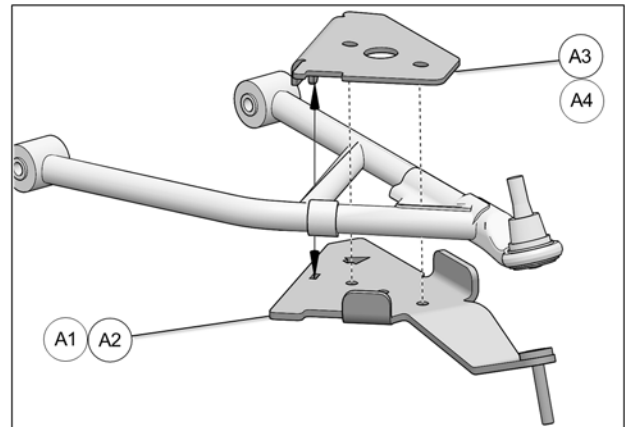

Fig. 17
6. Place bottom part of anchor bracket (A1-A2) assembly under front lower suspension arm. Position bracket cover (A3-A4) over suspension arm and align holes in cover and bottom part. Insert the top part's tenon in the bottom part's mortise. See Fig. 17